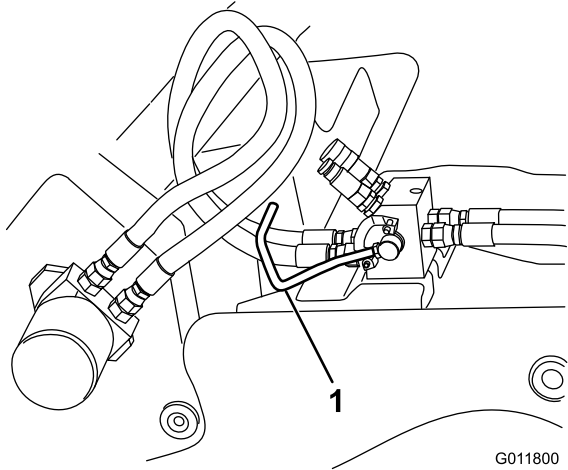

Figure 24
7. Lower the switching lever on the hydraulic manifold to switch from trencher operation to bore drive head operation (Figure 24).